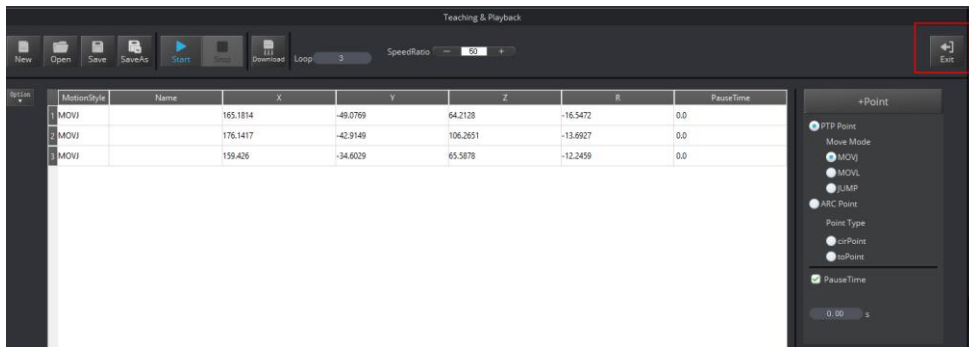

Figure 2.24 Click Exit
7. Click  to exit the **Teaching & Playback** page, as shown in Figure 2.24.